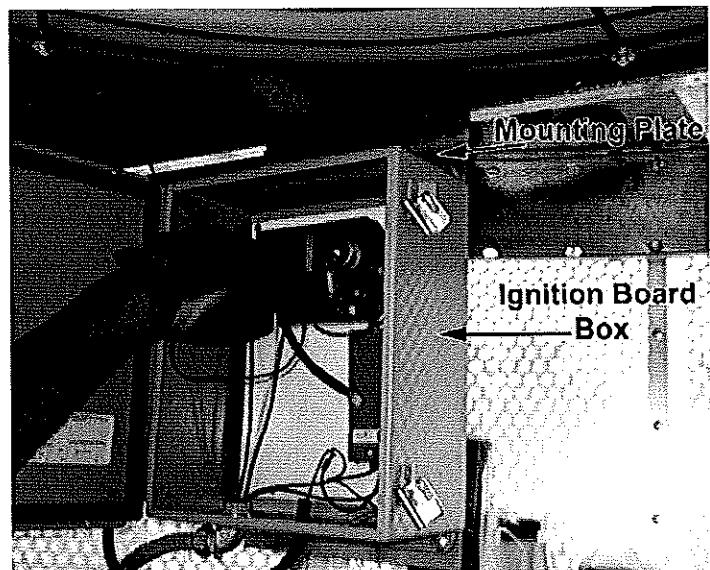

Figure 30
- There is a length of 3/4" flexible conduit connected to the Ignition Board Box, which is placed in the Base Section of the dryer during shipment. The Ignition Board Box is to be mounted on a special plate located in the bottom of Section #3 just under the Heat Floor. The mount plate is bolted to the side of (1) of the Floor Braces. See Figure 30.